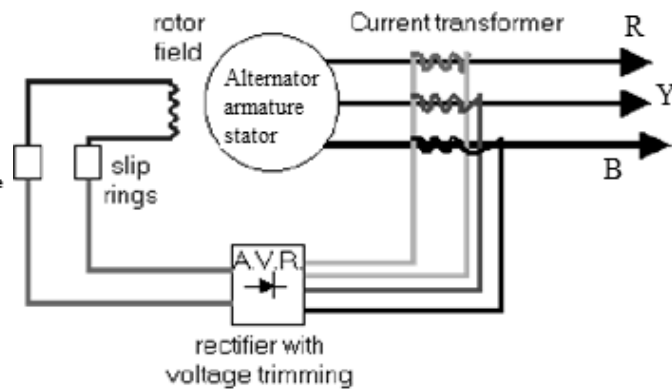

Fig 2
in Fig 2. The three phase generator output is fed to the rectifier whose output (DC) is given to the field winding. This DC output is regulated such that the induced emf in the alternator is maintained at the required value. As the field is fed from alternator's own generated emf it is called self excited alternator.